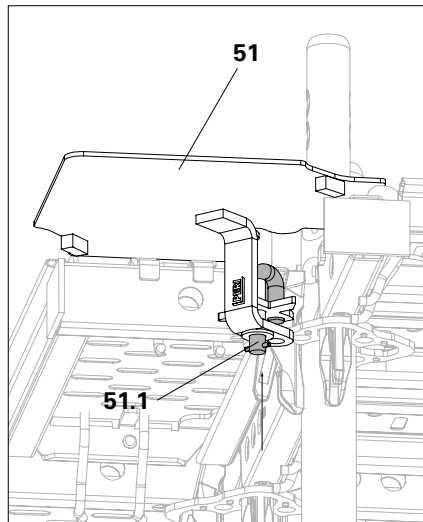

Fig. A7.05a
4. Push the bolts of the Inside Corner Plate EDP (**51.1**) up. (Fig. A7.05a)